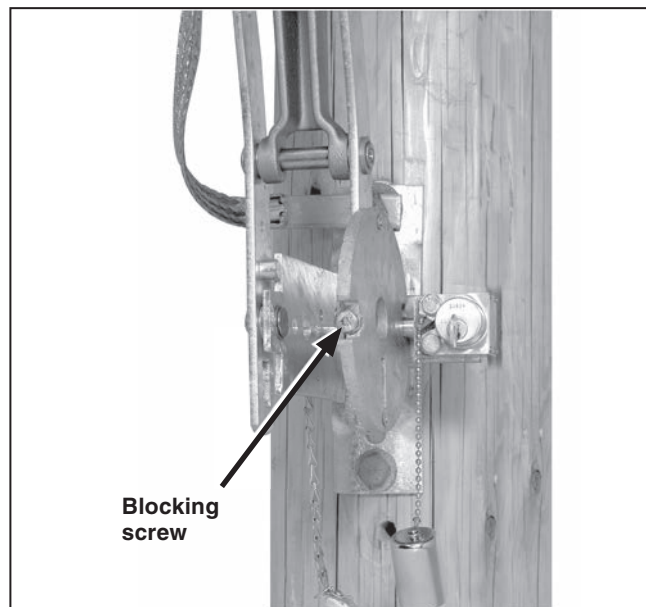

Figure 22. The blocking slot in the locking disc.
STEP 21. Block one of the two slots in the locking disc with the blocking screw provided. (The slot to be blocked depends on whether a locked-open or locked-closed arrangement is required.) See Figure 22.